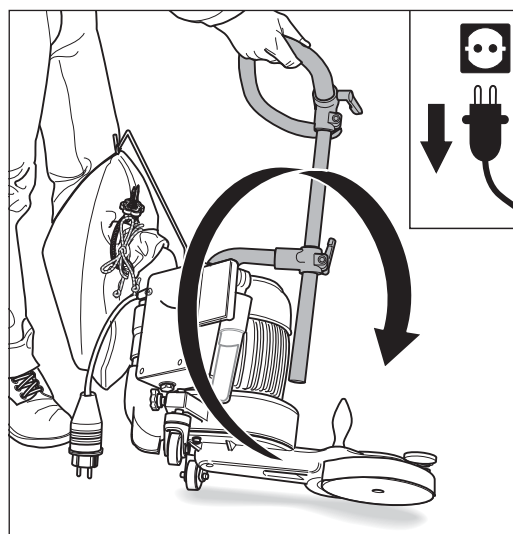

Fig. 43 Tilt the UNICO over to the **left-hand** side and set it down carefully.
- 3 Place the UNICO on its side by grabbing the machine by the handlebar on the right-hand side and then tilt the machine over to the **left-hand** side (Fig. 43) and set it down carefully.